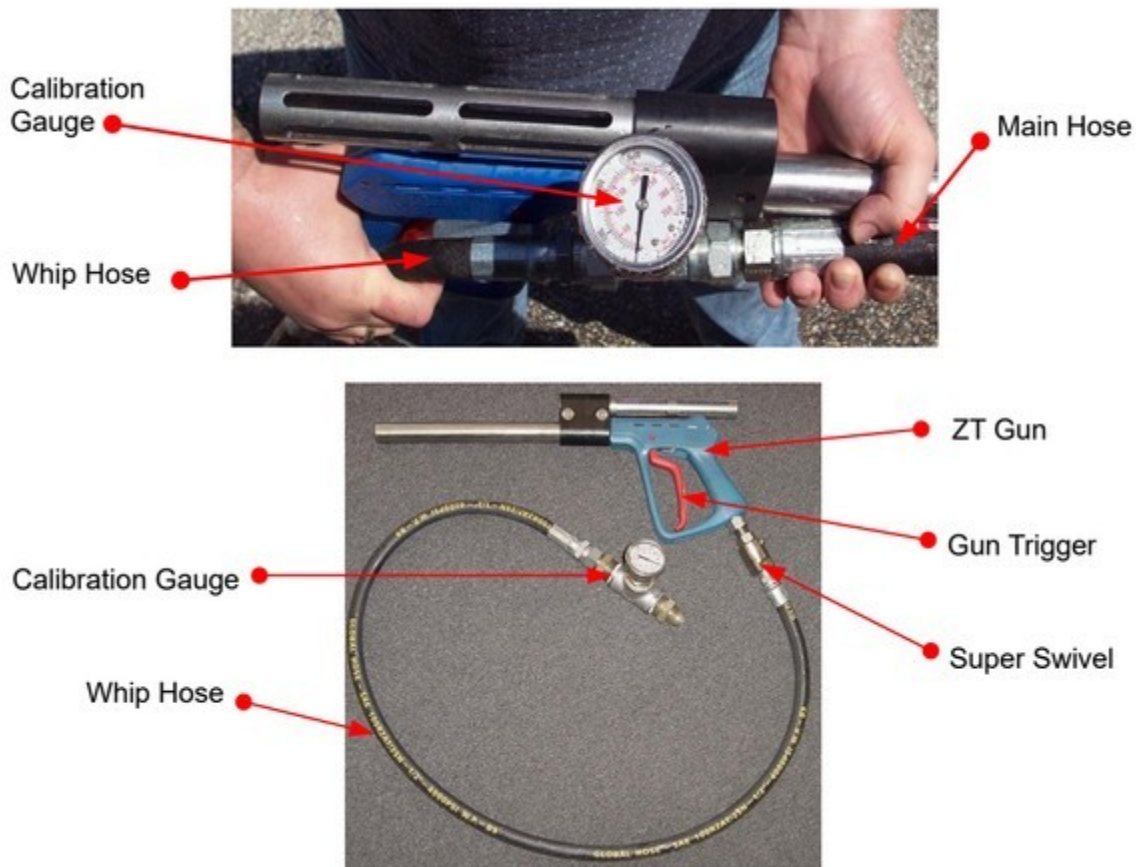

Figure 5.2 – ZT-Gun Pressure Calibration
- Hold the CaviBlaster™ tool tight and observe the gauge (Figure 5.2).